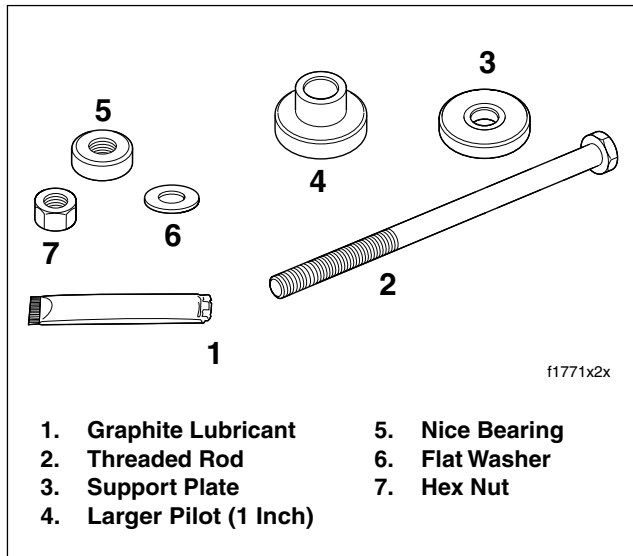

Figure 2-6. Front Wheel Bearing Installer Tools (Part No. HD-44060)
- a. Obtain the WHEEL BEARING REMOVER/INSTALLER (HD-44060). Pick out the wheel bearing installer tools for the front wheel. See Figure 2-6.